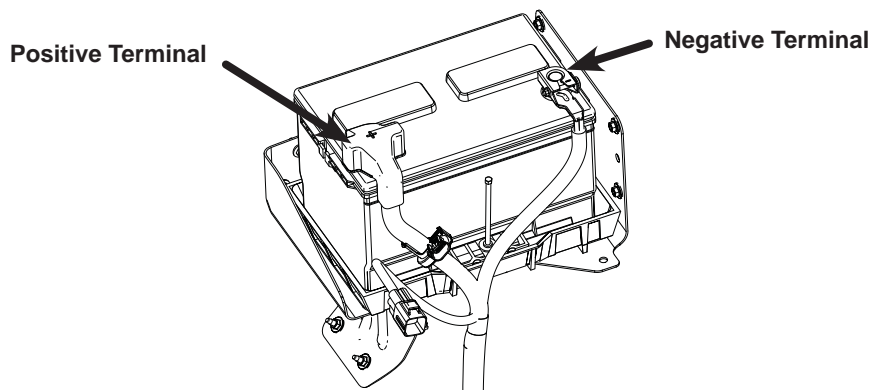

Fig. 2
4. Release and open hood to disconnect the negative terminal from the battery by using M8 socket and ratchet See Fig. 2